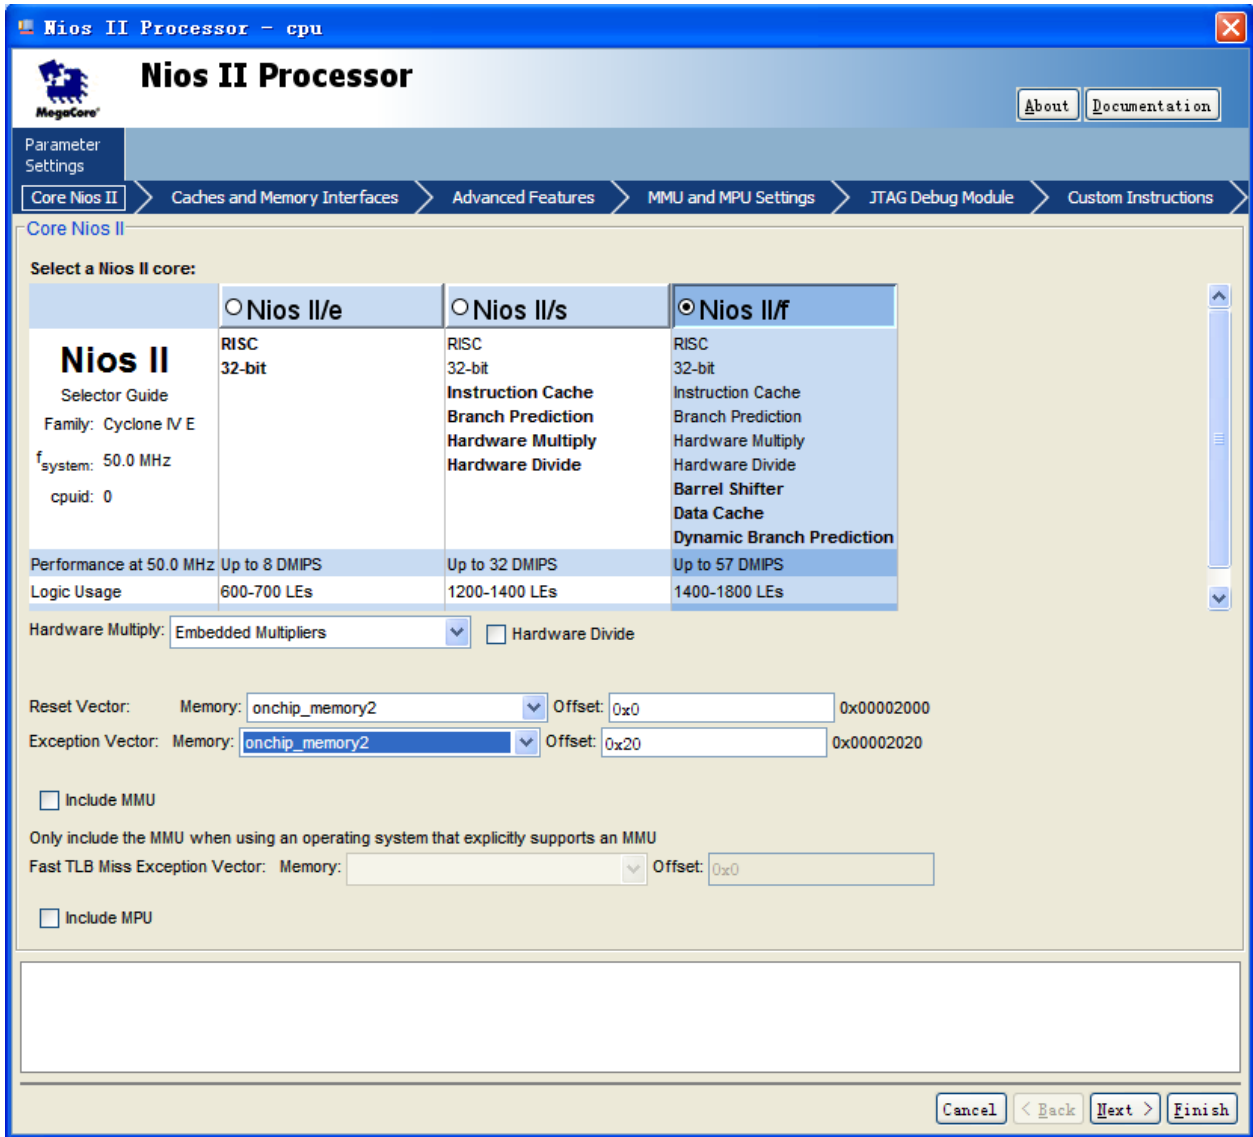
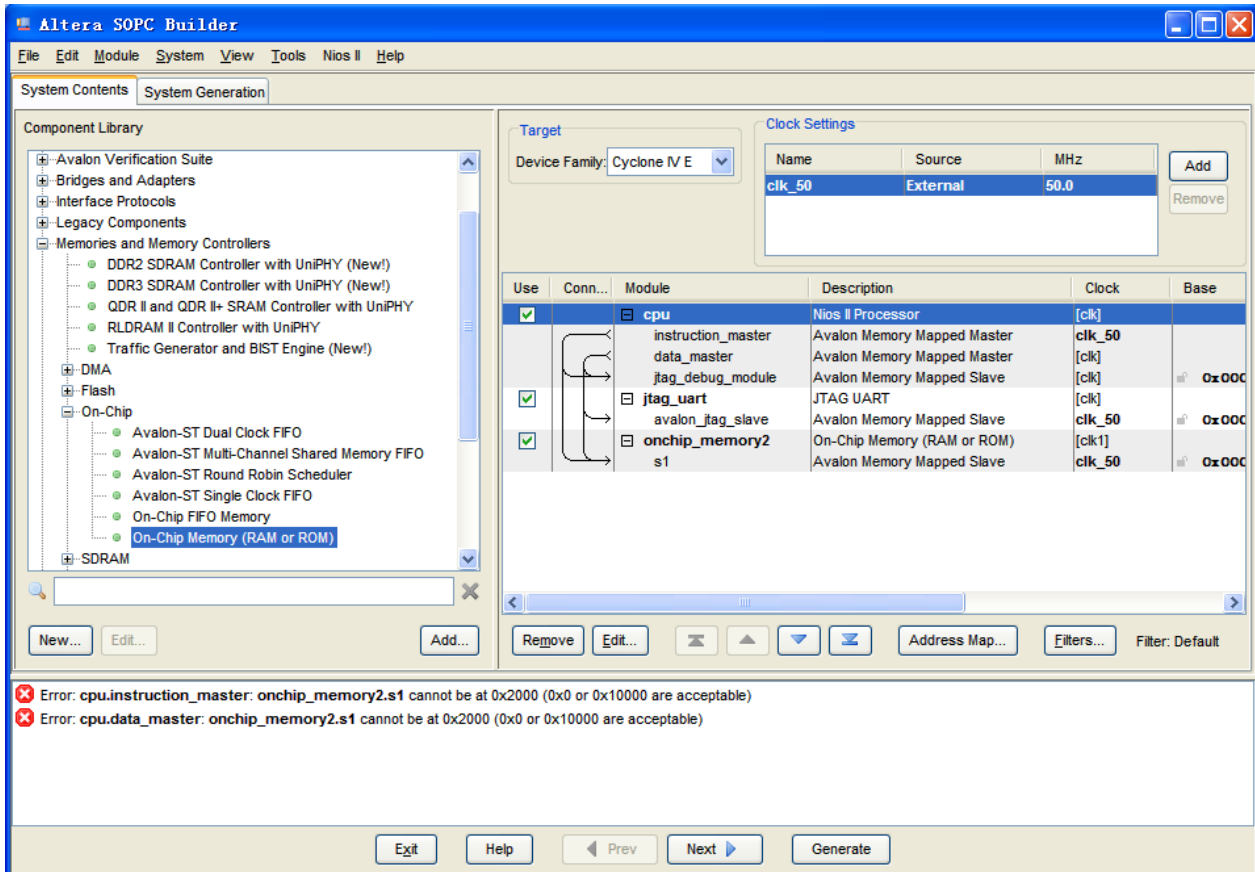

Figure 7-28 Update CPU settings
Figure 7-29 Updated CPU settings
18. Right click on the `cpu` component table and select `Edit...` from the list. Update the Reset Vector and Exception Vector as shown in Figure 7-28. Then, click `Finish` to return to the window as shown Figure 7-29.